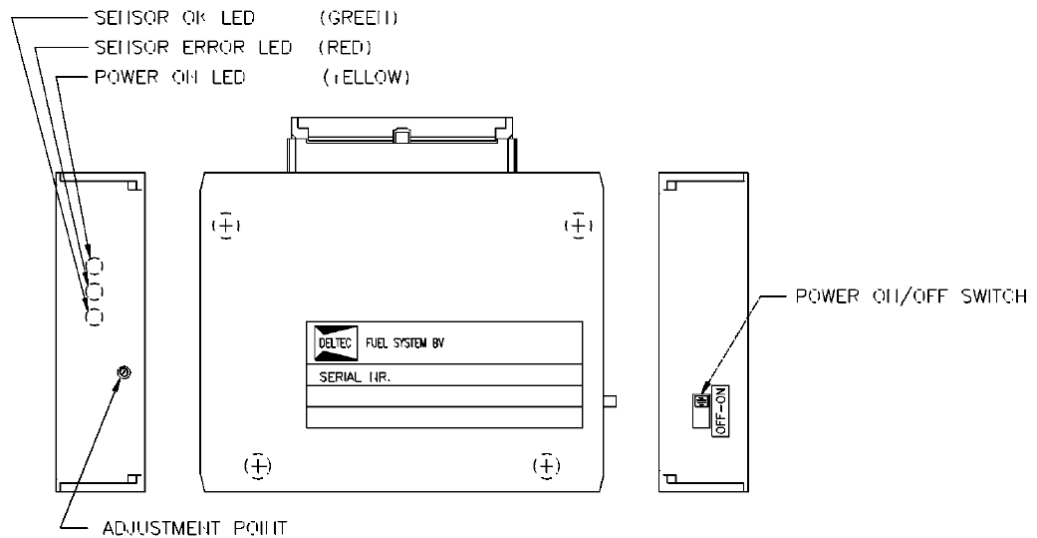

Figure 2-9. UEGO Controller
- Turn off the power of the controller using the power on/off switch (see Figure 2-9).
- If necessary, trim the adjustment point (see Figure 2-9) so that the multimeter is reading exactly 4.50 Vdc